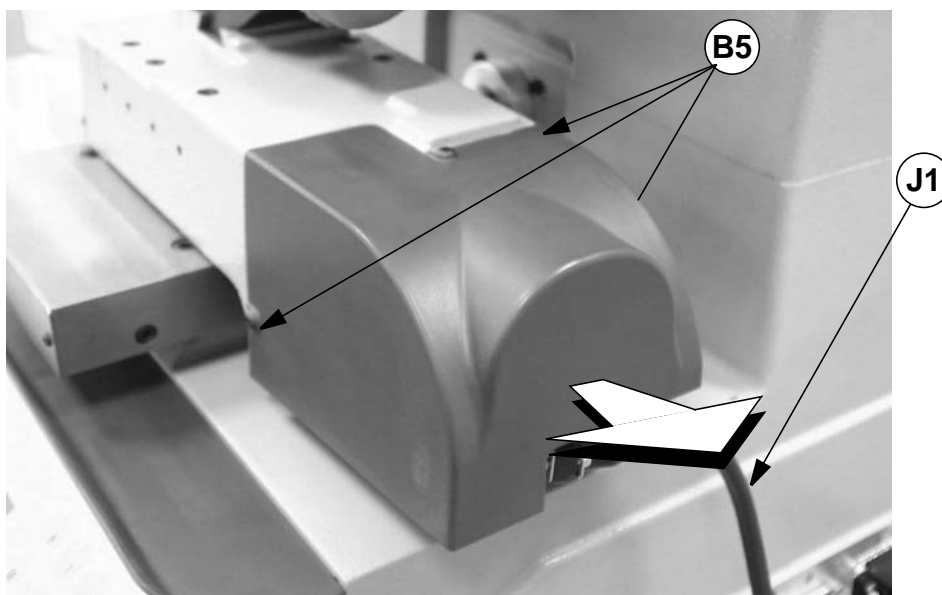

Fig. 46
- 2) disconnect the top axis connection wire (J1) from the carriage (fig. 46).
- 3) remove the top axis carriage cover by unscrewing the 3 fixing screws (B5) and pull out in the direction shown (fig. 46).
- 4) disconnect the photocell wire (J2) and the sensor wire (J) (fig. 46).
- 5) loosen the 2 screws (K) holding the photocell and remove from the carriage.
- 6) place the new circuit board in position on the carriage and tighten the 2 support screws (K).
- 7) connect the photocell wire (J2) and the sensor wire (J).